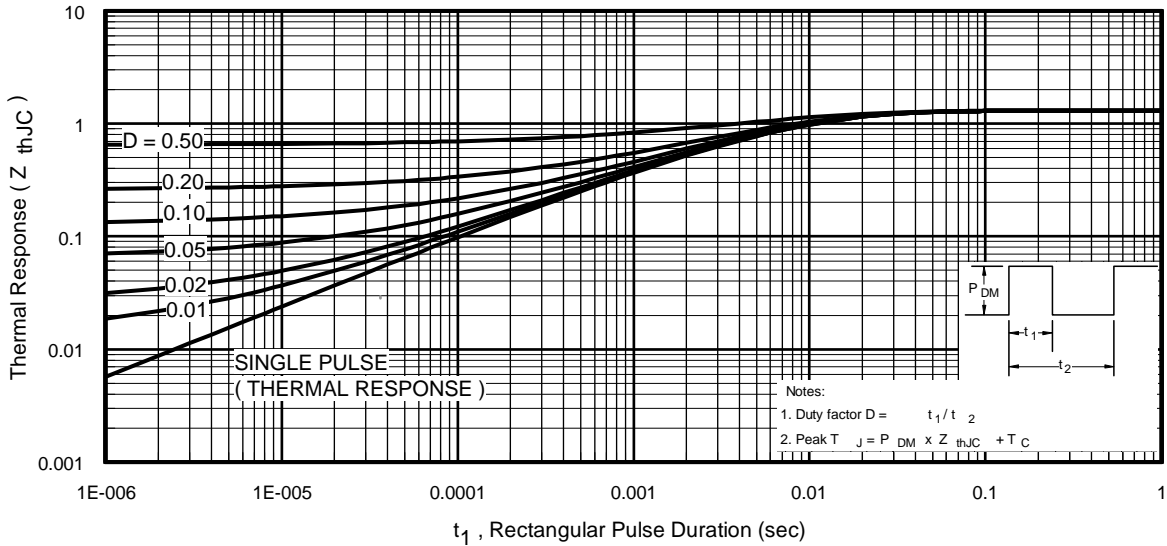
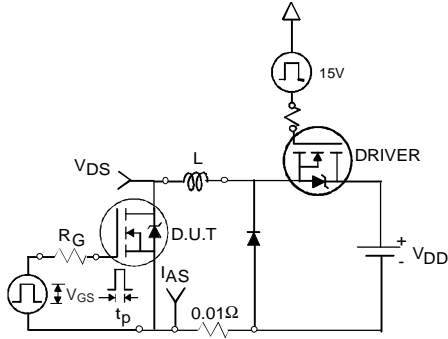

Fig 11. Maximum Effective Transient Thermal Impedance, Junction-to-Case
Fig 12a. Unclamped Inductive Test Circuit
3. Equation below based on circuit and waveforms shown in Figures 12a, 12b.
$Z_{thJC}(D, t_{av})$ = Transient thermal resistance, see figure 11)
- ① Repetitive rating; pulse width limited by max. junction temperature. (See fig. 11).
- ② Limited by T_{Jmax} , starting $T_J = 25^\circ C$, $L = 0.71mH$, $R_G = 25\Omega$, $I_{AS} = 23A$, $V_{GS} = 10V$. Part not recommended for use above this value.
- ③ $I_{SD} \leq 23A$, $di/dt \leq 400A/\mu s$, $V_{DD} \leq V_{(BR)DSS}$, $T_J \leq 175^\circ C$.
- ④ Pulse width $\leq 1.0ms$; duty cycle $\leq 2\%$.
- ⑤ C_{oss} eff. is a fixed capacitance that gives the same charging time as C_{oss} while V_{DS} is rising from 0 to 80% V_{DSS} .
- ⑥ Limited by T_{Jmax} , see Fig.12a, 12b, 15, 16 for typical repetitive avalanche performance.
- ⑦ This value determined from sample failure population. 100% tested to this value in production.
- ⑧ When mounted on 1" square PCB (FR-4 or G-10 Material). For recommended footprint and soldering techniques refer to application note #AN-994.